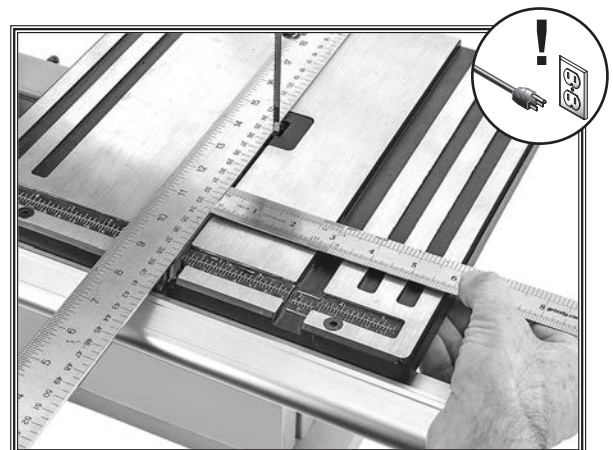

Figure 31. Placing a straightedge along the blade and measuring to the miter slot.
- Place an accurate straightedge along blade. The straightedge should lightly touch both front and back of blade (see Figure 31).
4. Use fine ruler to measure distance between straightedge and miter slot at front and back of table (see **Figure 31** on **Page 28**).